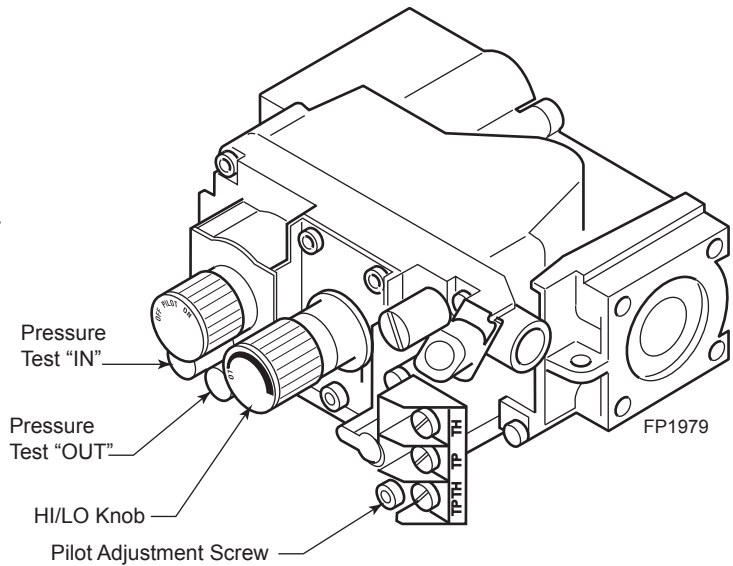

**Figure 17 -
5. To check gas pressures at valve, turn captured screw counterclockwise 2 or 3 turns and then place tubing to pressure gauge over test point. Turn unit to high. *Figure 17.* After taking pressure reading, be sure and turn captured screw clockwise firmly to reseal. Do not over torque. Check test points for gas leaks.